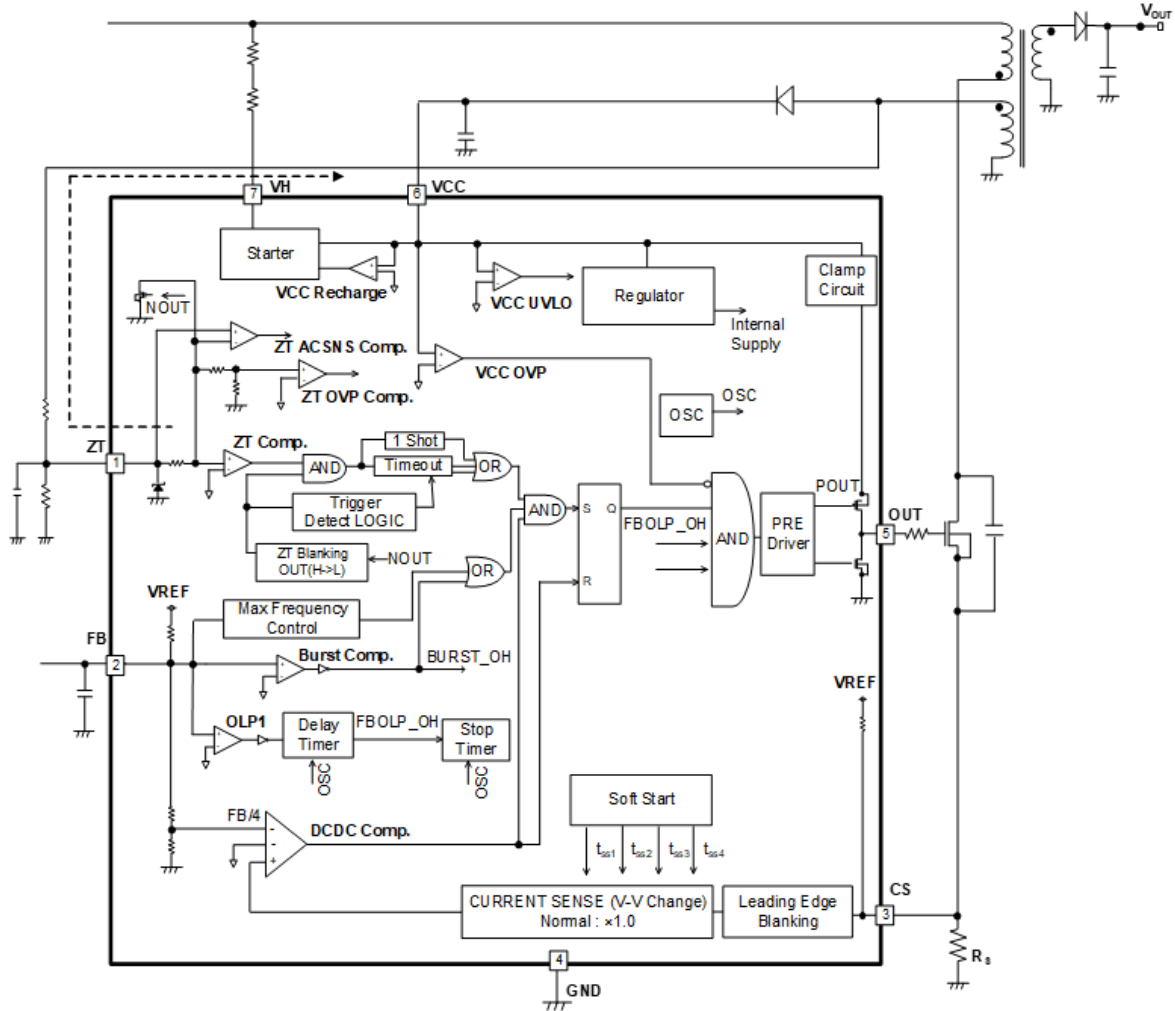
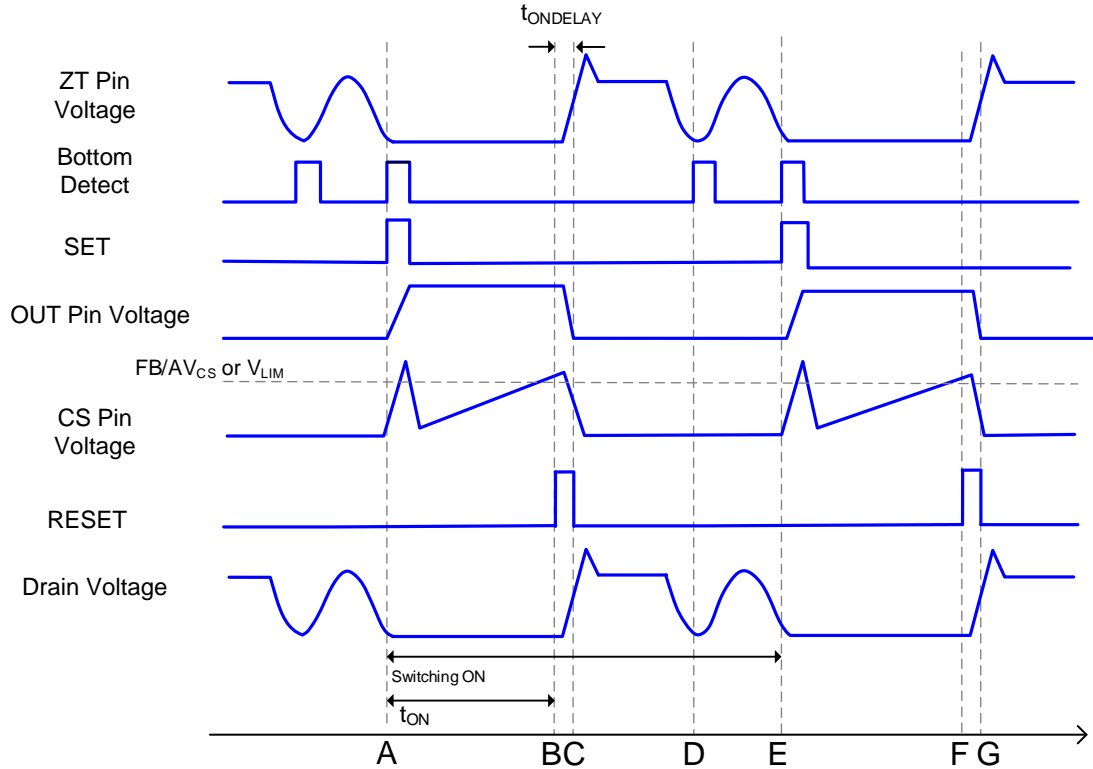

Figure 11. IC Internal QR Operation Block Diagram
Figure 12. QR Basic Operation
This IC operates the PFM (Pulse Frequency Modulation) mode control method. By monitoring the FB pin, the ZT pin, and the CS pin, the optimum system is supplied as a DC/DC. The FB pin and the CS pin control the ON width (turn OFF) of the switching MOSFET, and the ZT pin controls the OFF width (turn ON). IC internal QR operation block diagram and QR basic operation are shown in Figure 11, Figure 12.
- $V_{IN}$  is the VH pin voltage (Figure 11)
- $R_S$  is the sense resistor (Figure 11)